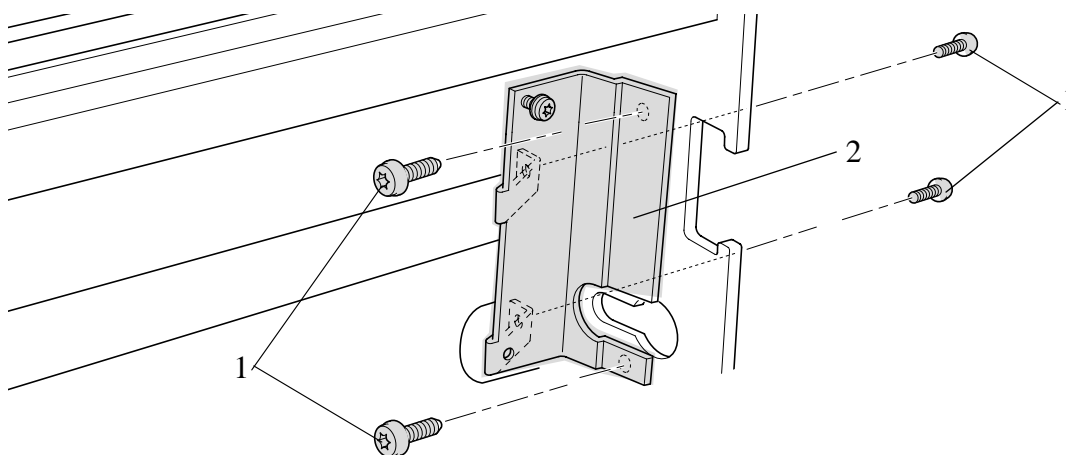

Figure 81: Right Electronic Module Mount
5. Remove the four T-15 screws (item 1) securing the right hand electronic module mount (item 2) to the right hand side chassis (refer to Figure 81).